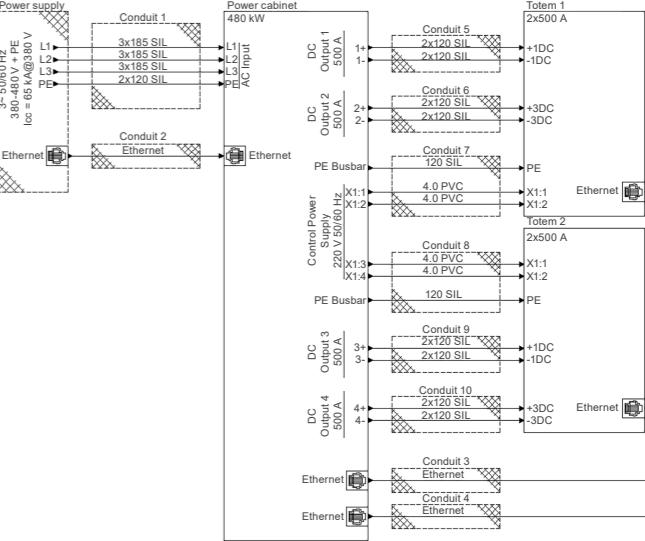

Figure 5.4: Wiring Diagram: Power Supply, Power Cabinet, and Totems
- The specified conductor gauges are based on a supply voltage of 380 V. A detailed wiring diagram is shown in Figure 5.4.
- Each input busbar has two (02) M12 holes. Each M12 hole allows the connection of up to two (02) terminals one on the front and one on the back of the busbar.